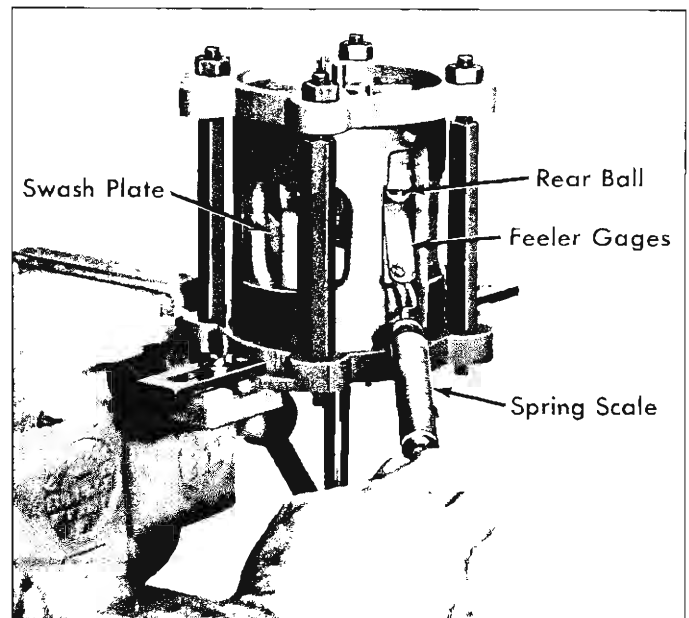

Fig. 45—Checking Clearance Between Rear Ball and Wobble Plate
12. Use a leaf type feeler gauge and a suitable spring scale to check clearance between the REAR ball and the wobble plate (fig. 45) of the No. 1 piston.